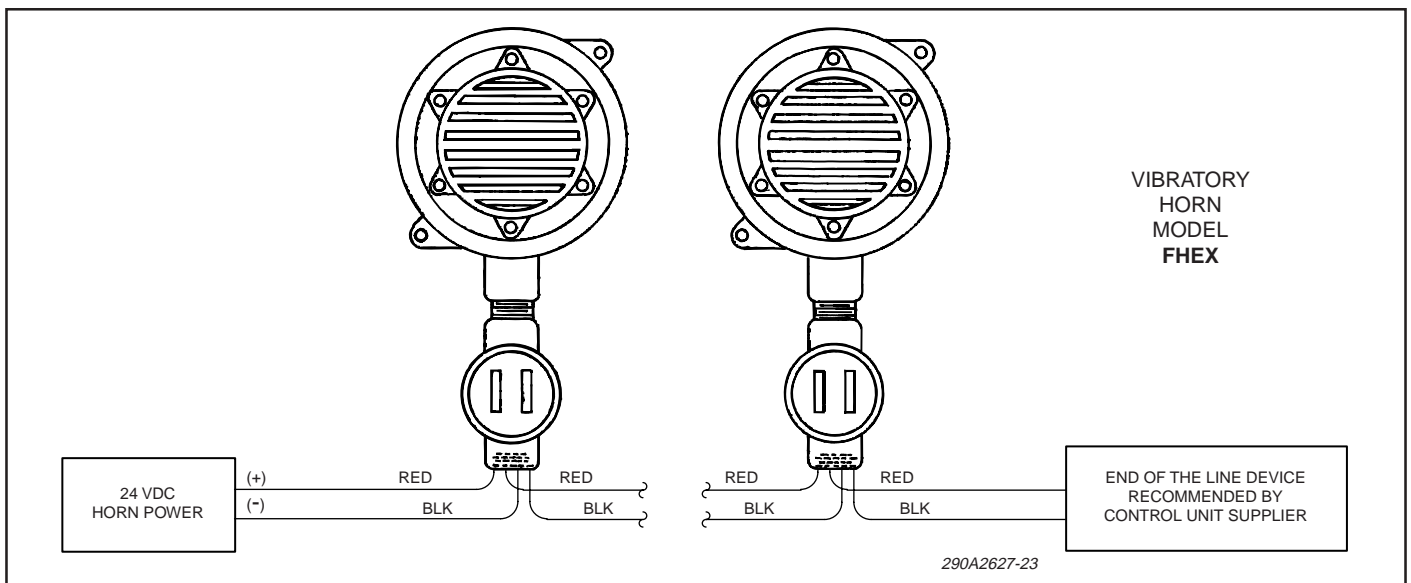

Figure 2. Typical Horn Installation Wiring.
- Remove splicing conduit cover. See figure 2. Connect the device's red (+) leads to the power source positive (+) lead. Connect the device's black (-) leads to the power source negative (-) lead.